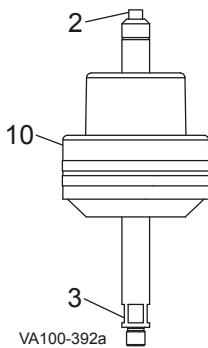
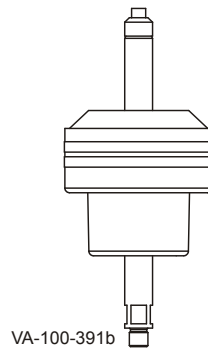

Figure 44:
Figure 45:
3. Using a 5/8-inch wrench on the lower stem (Figure 44, item 3) and a 3/8-inch wrench on the upper stem (item 2), unscrew and remove the two actuator stem halves.
4. Turn the piston/spring assembly (item 10) over.
5. Install the actuator stem halves in the piston/spring assembly and tighten to 200 in/lbs. See Figure 44 for Air-to-Raise configuration; Figure 45 for Air-to-Lower configuration.